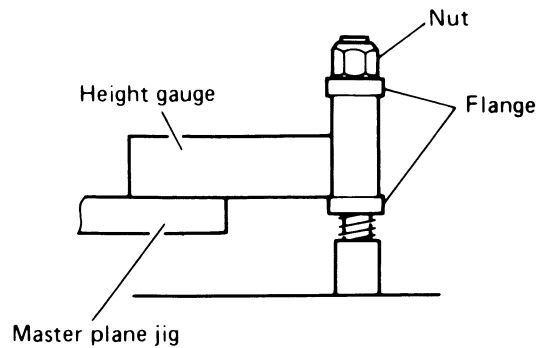

Fig. 6 Guide pole height adjustment
2. Set the height gauge on the master plane jig as shown in **Fig. 6**.